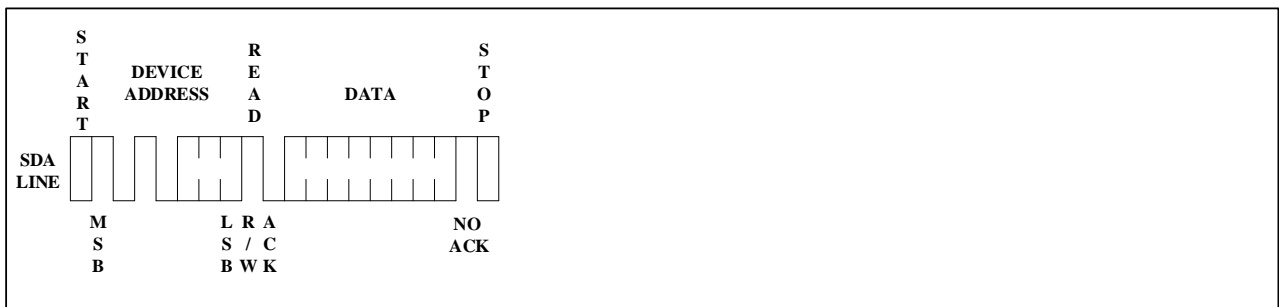

Figure 9. Current Address Read
**CURRENT ADDRESS READ:** The internal data word address counter maintains the last address accessed during the last read or write operation, incremented by one. This address stays valid between operations as long as the chip power is maintained. The address "roll over" during read is from the last byte of the last memory page to the first byte of the first page. The address "roll over" during write is from the last byte of the current page to the first byte of the same page. Once the device address with the read/write select bit set to "1" is clocked in and acknowledged by the EEPROM, the current address data word is serially clocked out. The microcontroller does not respond with an input "0" but does generate a following stop condition (see Figure 9).